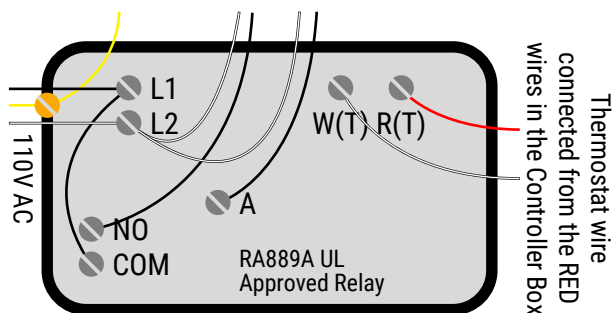

Fig. 19
- **Double Fixture Connection (Fig. 19):**